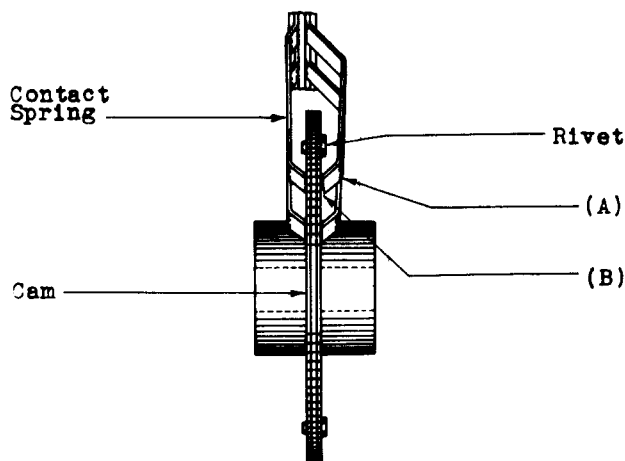

Fig. 3
2.05 Contact Spring Pressure: Fig. 3(A)
2.06 Parallelism of Contact Portion of Contact Spring With Face of Cam: Fig. 3(B) —